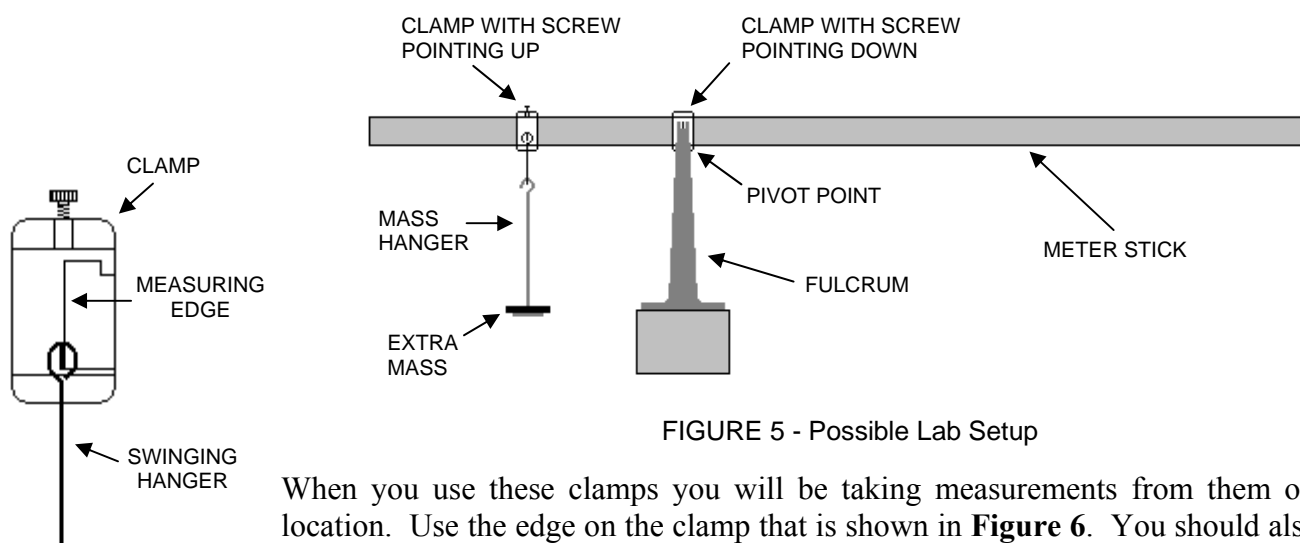

FIGURE 5 - Possible Lab Setup
**The Equipment** The most basic part of the lab is the fulcrum and meter stick. **See Figure 5.** The fulcrum is mounted to a block of wood and is used as a pivot point for the meter stick. There are also three clamps on your table. Two of them have swinging hangers on them, one doesn't. **See Figure 6.** You can attach clamps to the meter stick to either hold the meter stick up at the pivot point on the fulcrum or you can use them to hang extra masses. **See Figure 5.**
When you use these clamps you will be taking measurements from them on their location. Use the edge on the clamp that is shown in **Figure 6.** You should also have two mass hangers as well as a set of masses that you set on the platform of the hanger. **See Figure 5.**
**B)** Place the meter stick on the fulcrum with the clamp right at the pivot point. See **Figure 5**. Adjust the location of the clamp back and forth until the stick remains relatively horizontal.
**A)** Using the digital scales in the back of the lab, find the mass of each hanger assembly *which includes* the clamp, the swinging hanger, and the mass hanger. **See Figure 5 & 6.** Do not assume that each assembly has the same overall mass. Find both separately.
**B)** While the meter stick is balanced at its center of mass, place one hanger assembly at 20 cm on the stick. **NOTE:** Have the screw on the clamp pointing *upwards* for any clamp with a swinging hanger. It's easier to adjust that way. **See Figure 5.**